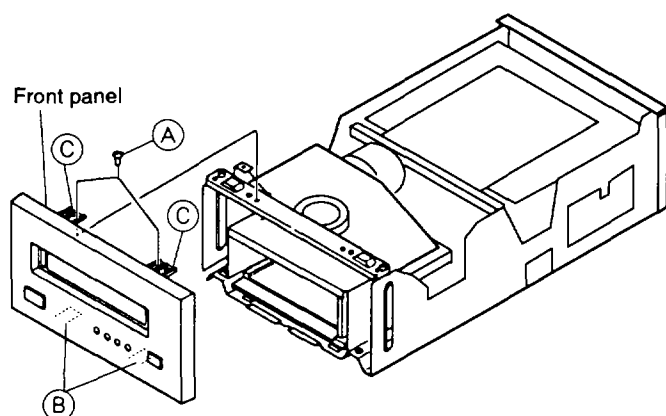

Fig. 2
5. Remove the two screws (A). Pushing the two hooks (B) and two hooks (C) and pull out the front panel. (Fig. 2)